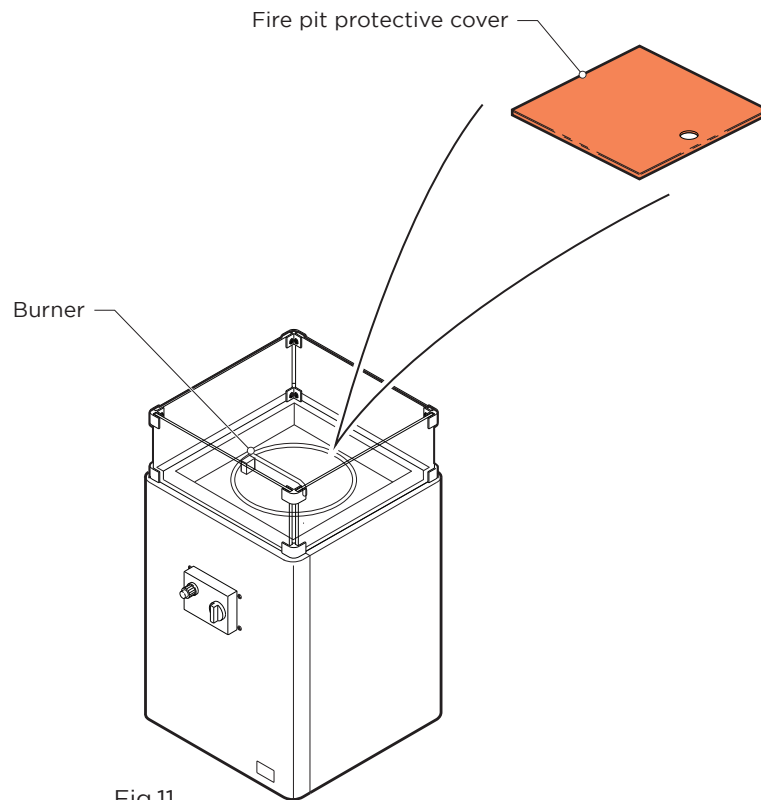

Fig.11
- We recommend covering the appliance to protect exterior surfaces and to prevent the build up of excess dust. Covers must be removed periodically to minimise moisture build up, see fig.11.
Note: We recommend using the protective cover, to protect the burner from excessive dust and dirt build up when not in use see, fig.11